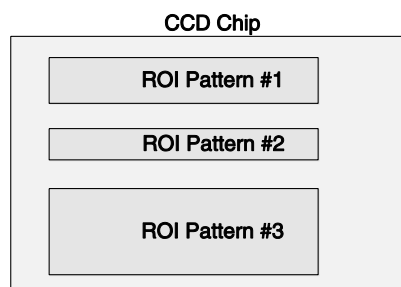

Figure 128. Spectroscopy Mode Multiple Partial-width ROIs
4. Defining the region with the mouse and then changing parameter values via the keyboard before storing the pattern. This allows you to change a full-width ROI created by mouse selection to a partial-width ROI like the one in Figure 128.